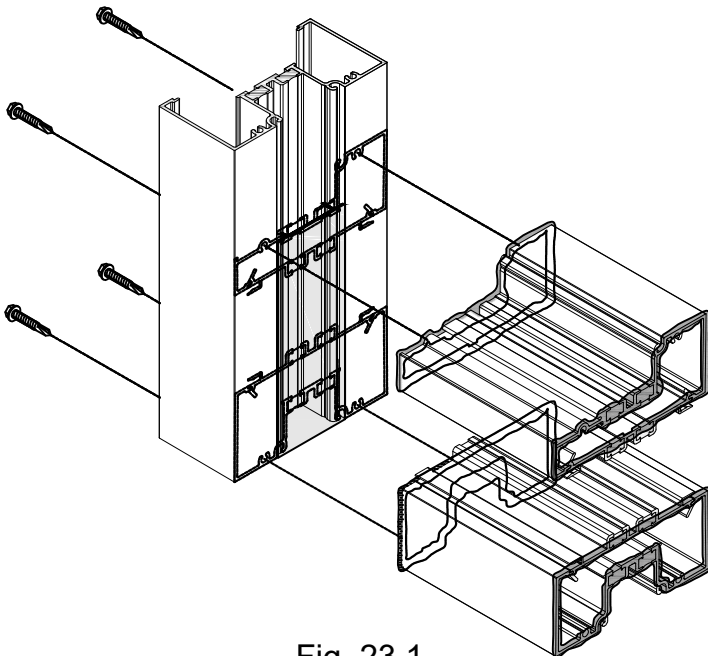

Fig. 23.1
- E. Seal ends of the upper and lower members where it will contact the vertical mullion and closure pocket. See Figure 23.1 & Figure 23.2.